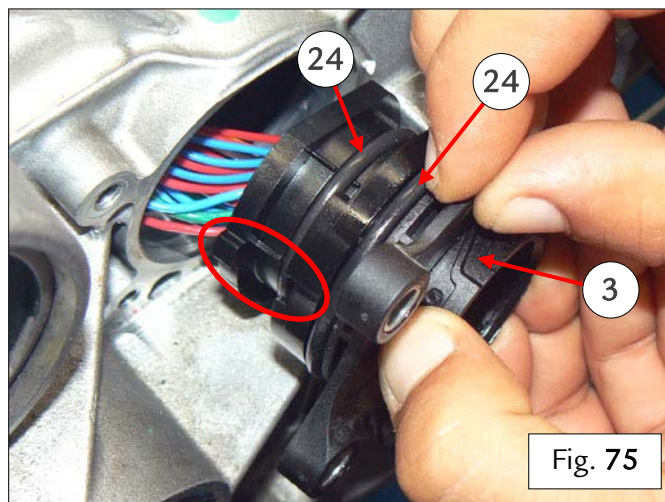

Fig. 75
- Visually inspect the seal surface of the adapter (3) in the differential housing – Fig. 75
- Lubricate the two O-rings (24), then fit the adapter (3) onto the respective connector, aligning correctly as indicated in the photo aside – Fig. 75.